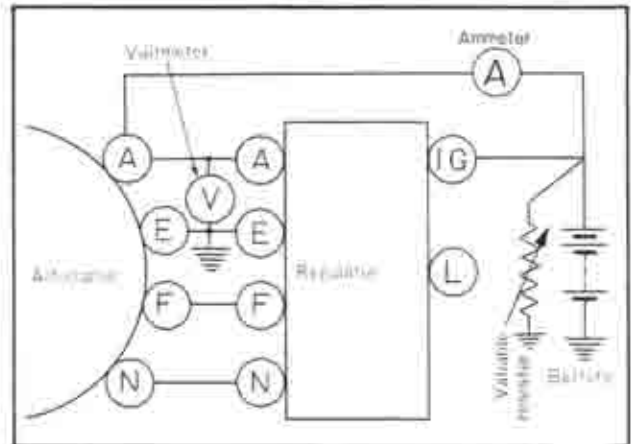

Fig. 5-17 Checking of constant voltage relay
To check, use an almost fully charged battery and connect a voltmeter between the (A) and (E) terminals of the regulator, as shown in Fig. 5-17. Then, hold the alternator revolution to 4,000 rpm (engine revolution 2,000 rpm) and take a reading of the voltmeter. If the reading is from 13.5 - 14.5 volts, it is in proper order. If it is not within the specifications, the voltage relay must be adjusted, as instructed in Par. 5-F-2.